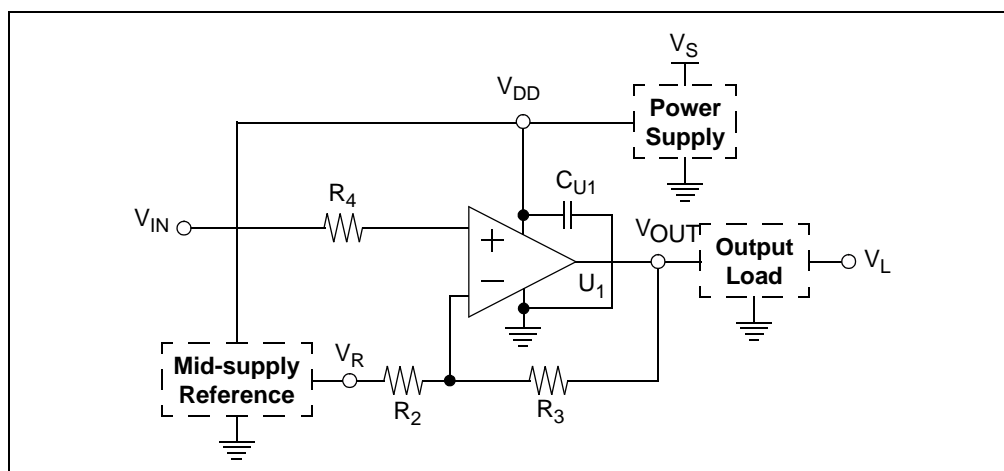

FIGURE 2-8: Non-Inverting Amplifier Circuit Diagram.
- The Mindi™ Amplifier Designer gives design recommendations for the non-inverting amplifier circuit; see the circuit diagram shown in Figure 2-8